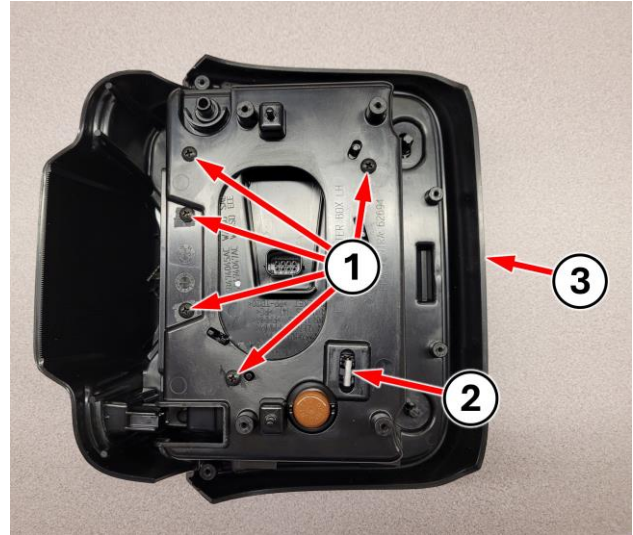

Figure 14 – Bezel Spacer
13. **NEW lamp:** Remove the five screws (1) securing the bezel spacer (3) to the lamp (Figure 14).
14. **NEW lamp:** Release the bezel spacer (3) from the retainer (2) and remove the bezel spacer (3) (Figure 14).